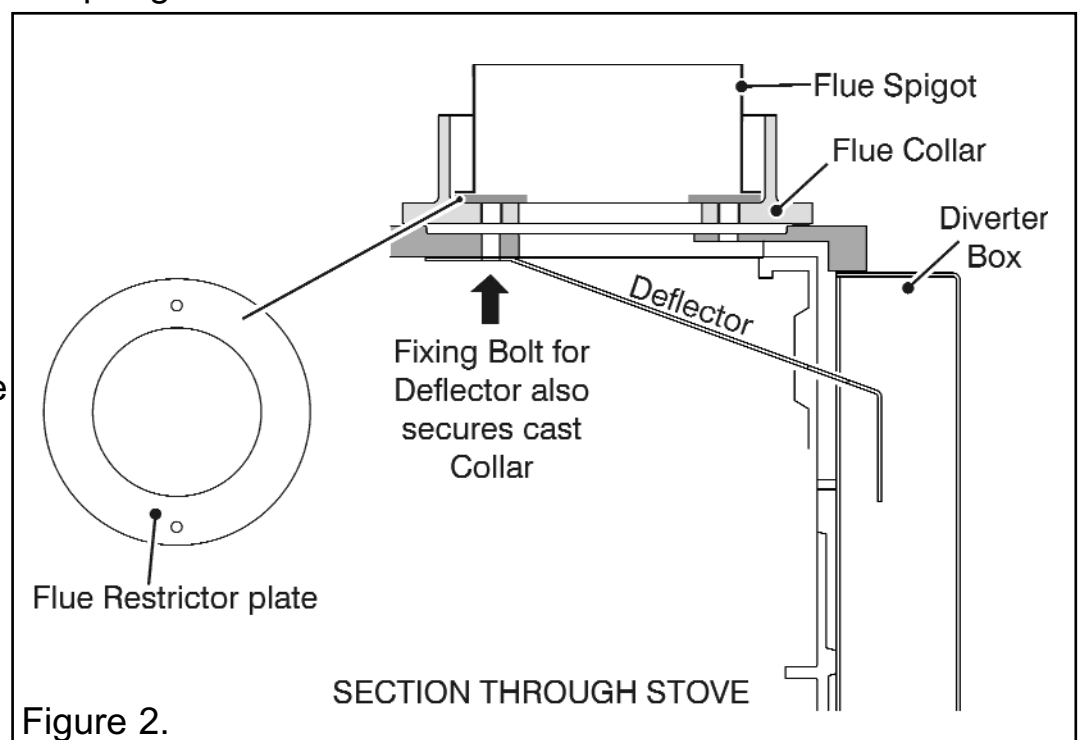
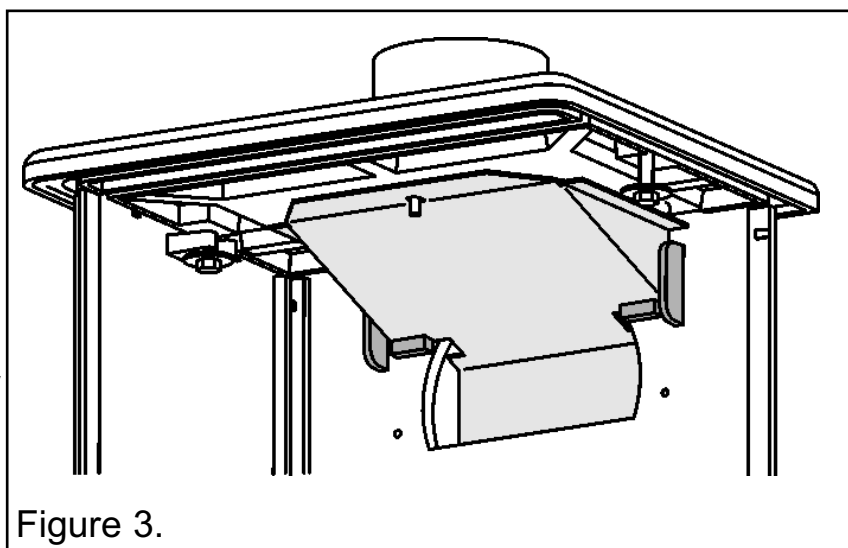

Figure 2.
Figure 3.
- The deflector, diverter box and flue restrictor plate should be assembled to the stove as in figure 2. The deflector must be fitted first and is secured in place using the front bolt that secures the flue collar. Unscrew and remove the nut and washer from the front
bolt and position the deflector as in figure 3, securing it using the nut and washer. It **MUST** be sealed against the top of the stove casting. It is important that it sits on top and between the raised cast areas on the rear of the stove body (See figure 3). The flue spigot is screwed to the cast collar and clamps the flue restrictor plate in place (See figure 2).